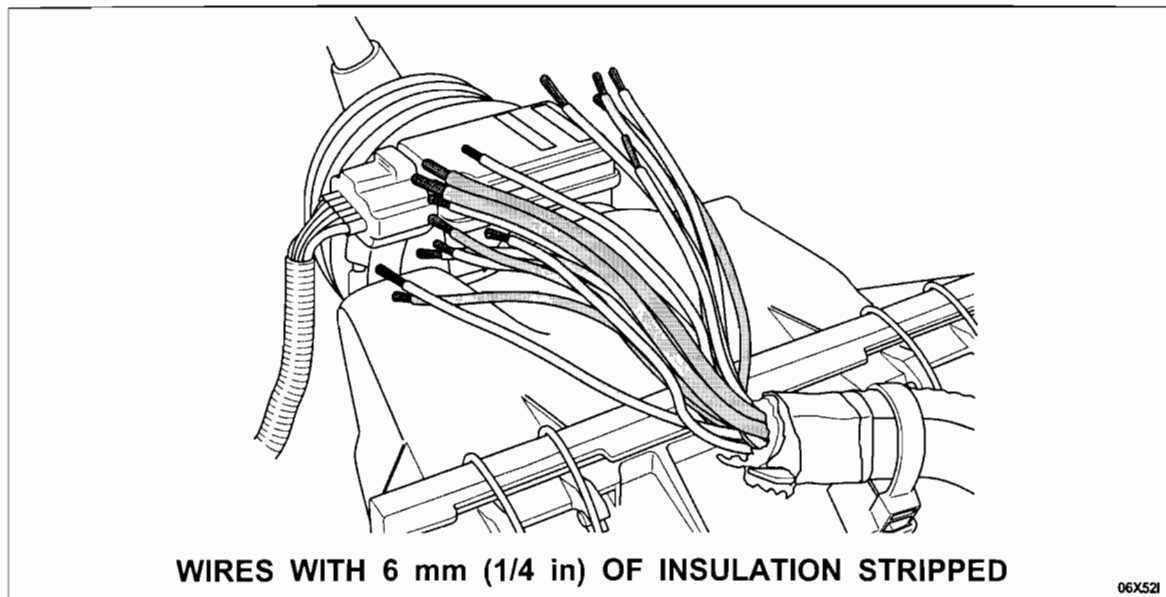

FIGURE 19
3. Strip approximately 6 mm (1/4 in) of insulation from each of the cut wires in the harness. See Figure 19.